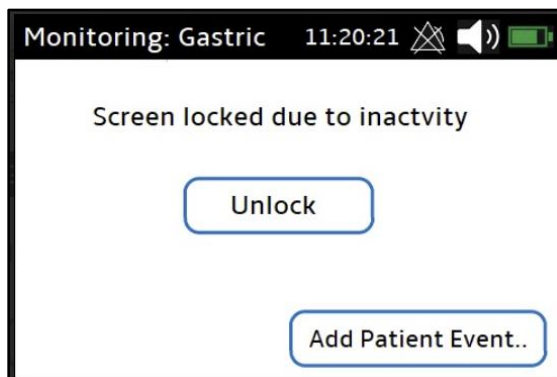

Figure 33: Inactive Screen
- Pressing the "Add Event" button from the Monitor Inactivity lock screen (Figure 33)
If the screen is inactive for over five minutes, the screen will become locked and the user must select "Unlock" to access the user interface (Figure 33). This screen also provides the option to directly add new patient event annotations without navigating to the graph screens.